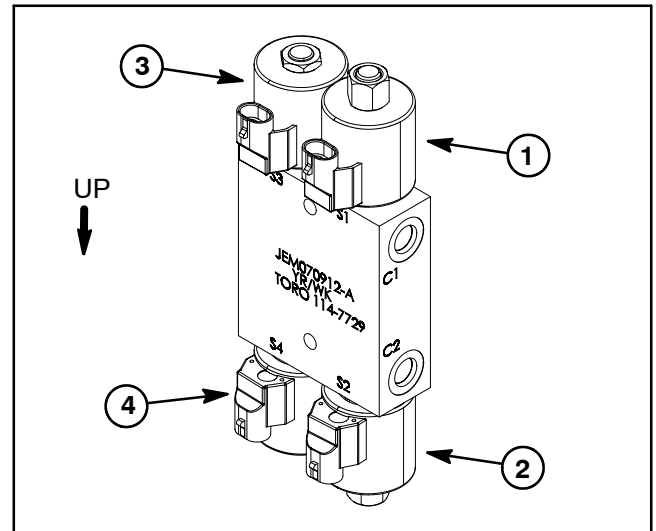

Figure 15
The ProCore Processor tow hitch kit uses four (4) solenoid valve coils on the hydraulic tow hitch manifold (Fig. 15). When the solenoid valve coils are energized, tow vehicle hydraulic flow can be directed to the tow hitch hydraulic offset cylinder to change the position of the ProCore Processor behind the tow vehicle.
**NOTE:** The four (4) tow hitch manifold solenoid valve coils are identical and can be reversed for testing purposes.